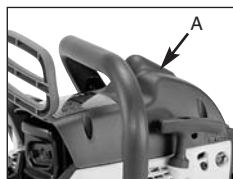

Abb. 21A
2. Remove the cover (A) by undoing the cover fastening screws (Fig. 21A).